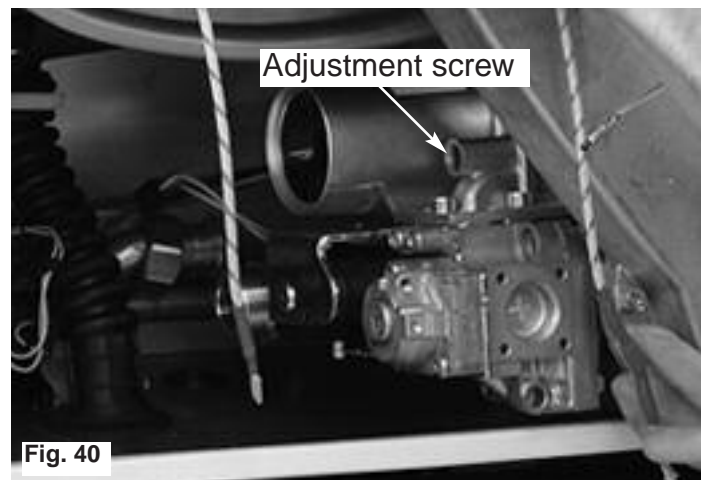

Fig. 40
7. If necessary adjust the screw on the gas valve (Fig. 40) to set the CO₂ to 8.9% +/- 0.2% (NG) or 9.7% +/- 0.2% (LPG);
8. Press the setting button  once to set the combustion control rate mode to minimum, and, if necessary, adjust the screw on the gas valve to set the CO₂ to 8.9% +/- 0.2% (NG) or 9.7% +/- 0.2% (LPG);
9. Press the setting button  again to set the combustion rate control mode to maximum and if necessary adjust the screw on the gas valve to set the CO₂ to 8.9% +/- 0.2% (NG) or 9.2% +/- 0.2% (LPG);